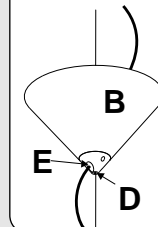

FIG. 3
- Fig. 3** Loosen milled pin "S" for two laps, of wire block "L" and guide the top of steel wire into the little ring, when the operation is carried out, you can regulate the high at will. **NOTE:** this fixing system of steel wire allows an immediate wire block, but to regulate high at will, too; if you want to lift the lamp, it is sufficient to push in the wire block "L" inside, while if you want to lower the lamp, you must push the pin "S" with a finger and pull the wire. When regulation is ended, screw the little pin "S", again and cut the wire in excess at about 2". from wire block "L". In order to keep more safe the cable, we recommend to secure the steel cable inside the twice screw bushing "J".
- Fig. 3** Make the electrical connection. **PLEASE NOTE:** DURING WIRING TAKE CARE TO GUIDE THE FIXTURE WIRE THROUGH THE PLASTIC CLAMP "X" AND LOCK IT BY THE SIDE PLASTIC SCREW "G".